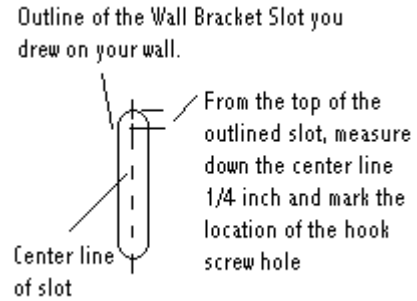
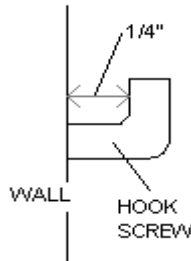

Figure 2a:
Figure 3:
2. Starting at the top of either of the outlined slots you made in step 1, with a plumb straight edge, draw a line down the center of each slot from top to bottom as shown in Figure 2a. Repeat for the other side of the awning.
- Starting on the Left side. From the top of the outlined slot, measure down the center line $\frac{1}{4}$ " and mark the location of the left side Hook Screw hole. Repeat for the right side. (See Figure 2a).
- Using a $\frac{13}{64}$ " drill bit, pre-drill holes at both left and right locations for the Hook Screws as shown in Figure 2a. Install a Hook Screw into each of the Hook Screw locations. Be sure to leave $\frac{1}{4}$ " of the Hook Screw exposed between the wall and the hooked end of the Hook Screw, see Figure 3.
- 6b. Using a 3/16" masonry drill bit. Pre-drill pilot holes 1 3/4" deep into the walls at both the left and right locations for the Hook Screws as shown in Figure 2a. With a 5/16" masonry drill bit, enlarge the holes 1" deep. Insert plastic masonry anchors into the holes, large side out. Install the Hook Screws into the Hook Screw locations. Be sure to leave 1/4" of the hook screw exposed between the wall and the hooked end of the Hook Screw, see Figure 3.